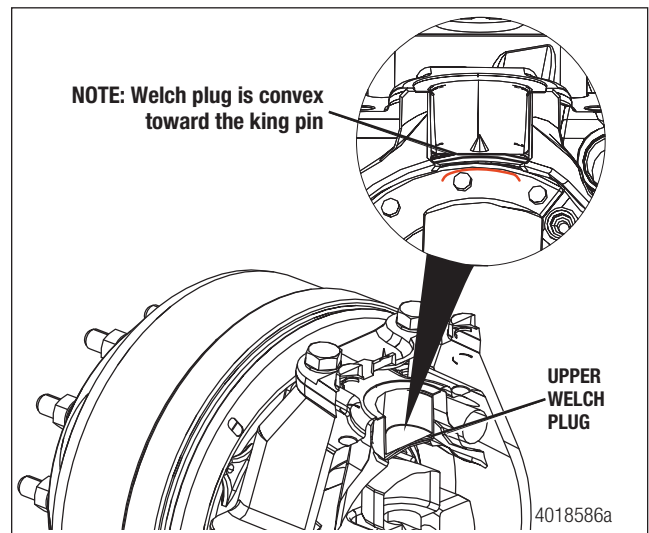
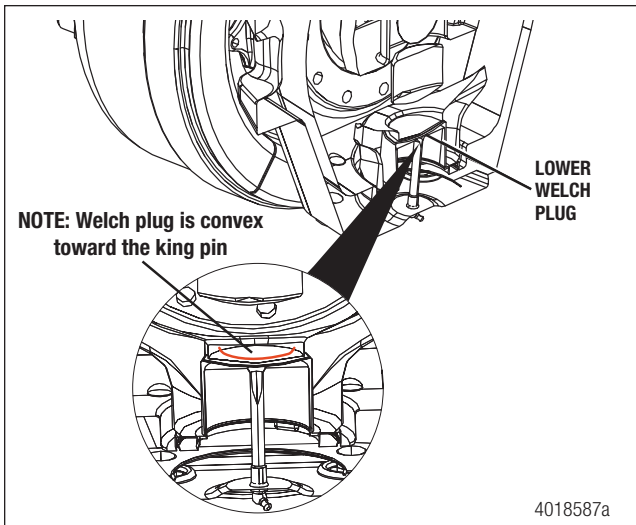

Figure 7.2
Figure 7.3
4. Place the welch plug in the socket bore so the convex side will be toward the king pin. If the welch plug is facing the wrong direction, grease from the fitting will not reach the king pin bushing and thrust bearing. Figure 7.2 and Figure 7.3.